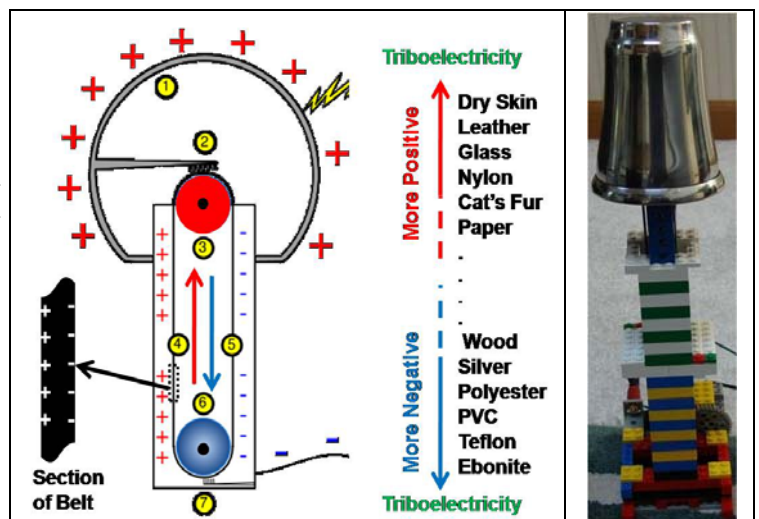

Fig. 2 The operation of a van de Graaff generator (left) and an 18 inches tall Lego VDG capable generating 60,000 volts if humidity is < 40 % (right).
A VDG generator uses a moving belt to generate very high voltages (in the range of 5 – 50 thousand volts for a toy VDG and up to 14 million volts for a commercial VDG) on a hollow metal globe (see Fig. 2). The globe voltage V , assuming a spherical globe of radius a , is given by $V = Ea$, where E is the electrostatic field at the surface of the globe. The maximum dome potential, V_m , is limited by the breakdown of the air, which occurs at $E = 30,000$ V/cm. Thus, $V_m = 30,000a$ volts, where a is the radius of the dome in centimeters. For a round globe with $a = 5$ cm, $V_m = 150,000$ V. However, the measured globe voltage of the round globe is approximately 50,000 V, which depends on VDG design parameters that typically include pulley materials and speed, belt material, charge collection efficiency and humidity.
Turn on the RCX (yellow brick) and connect the Lego motor integrated into the VDG to the port A of the RCX. Press the green button on the RCX to run the VDG. As shown in Fig. 2, the running rubber belt brings positive charge on the globe because the brush 2 picks up the positive charge and transfers it to the globe. The lower brush 7 brings the negative charge to the ground wire. Using the VDG globe as the source of positive charge, repeat the activities of experiment # 1.
- Connect the motor of a VDG generator (Fig. 2) to the port A of the RCX. Program the RCX to run the motor A at maximum speed. For the programming of the RCX use the program in the computer. If you have not done it before, help will be provided. Now bring the electroscope closer and closer to the top globe of the VDG generator